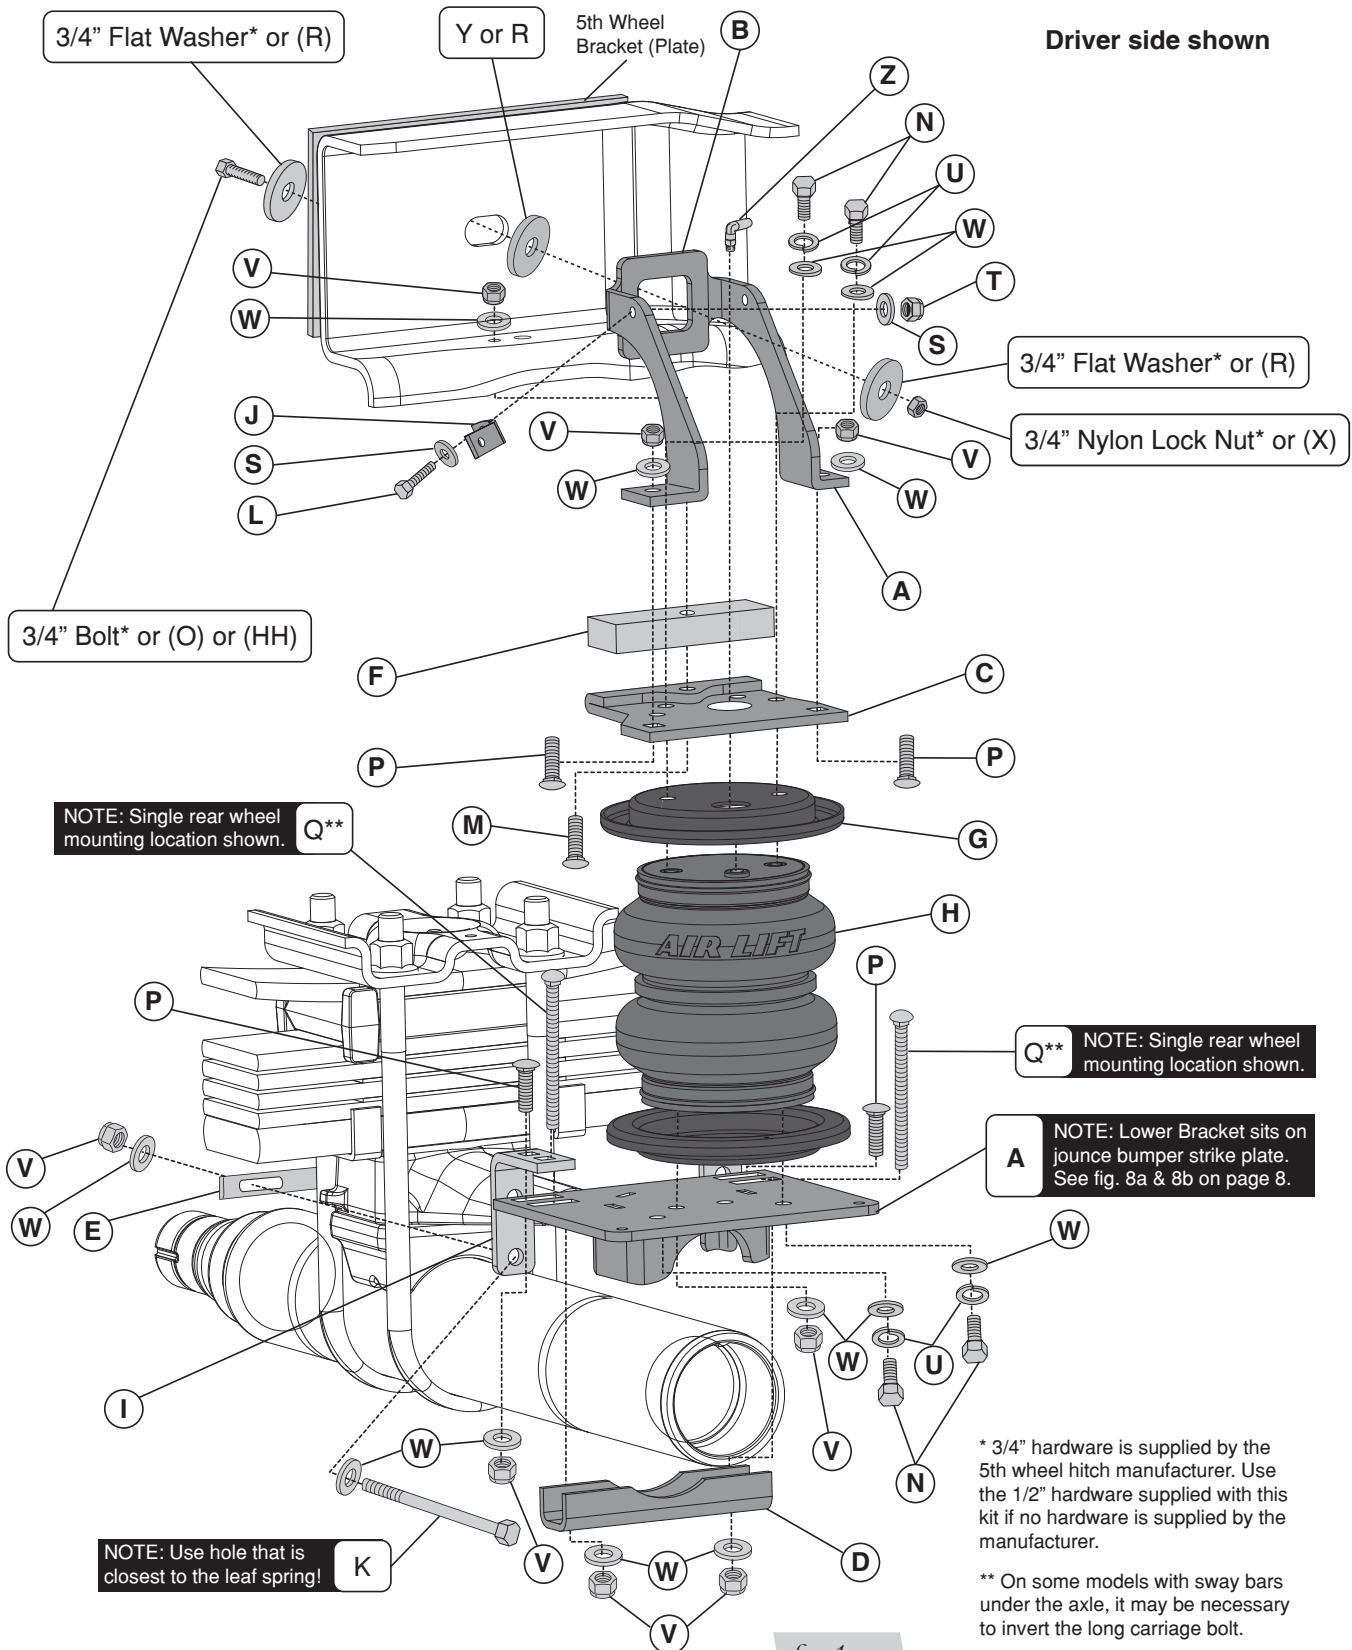
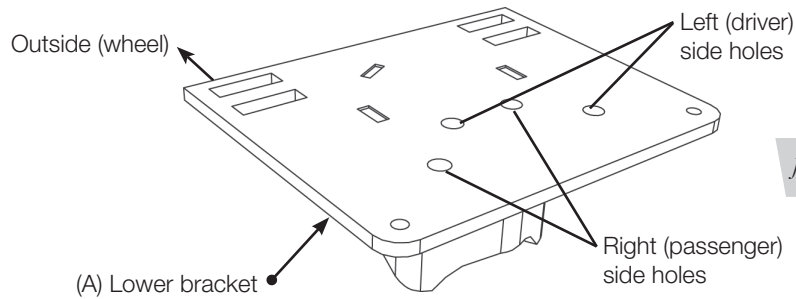

fig. 1
fig. 5
5. If you have a fifth-wheel hitch already installed, it will be necessary to remove the 3/4" hardware that bolts the side bracket to the outside of the frame above the axle (fig. 1).
- Attach the L-bracket (J) to the back frame brace using the 1/4" bolt (L), flat washers (S) and nylon lock nut (T) supplied (Fig. 1). This L-bracket will eventually be used to attach the previously removed emissions line. Do not attach the line holder to it at this time.
If you have no fifth-wheel hitch or a hitch that does not have a plate running alongside the full length of the frame (these will have an “L” bracket forward and behind the axle leaving the middle frame open) use the 1/2”-13 x 2” hex cap screw (HH) with a flat washer (R) through the slot in the side of the frame, then through another flat washer (R) and finally through the upper brace. Cap with a flat washer (R) and a 1/2”-13 nylon lock nut (X) (Fig. 5). Leave loose at this time.
If you have an aftermarket fifth-wheel hitch that has a bracket (plate) running alongside the frame and it used the slot to secure the bracket to the frame with existing hardware, install the existing hardware previously removed in the “getting started section” from the fifth-wheel installation for securing the brace (Fig. 4). Make sure to install the large 3/4” flat washer (Y) between the brace and the frame (Figs. 1 & 4). Do not tighten at this time.
Insert a 1/2”-13 x 3” hex cap screw (O) with a flat washer (R) through the fifth-wheel plate previously drilled, the frame, then through another flat washer (R) and finally the upper brace. Cap with a flat washer (R) and a 1/2”-13 nylon lock nut (X) (Fig. 5). Leave loose at this time.
1. Set a roll plate (G) over the top and bottom of the bellows (H) (Fig. 1).
*The radiused (rounded) edge of the roll plate (G) will be towards the bellows so that the bellows is seated inside both roll plates.*
2. Install the swivel elbow fitting (Z) into the top of the bellows finger tight. Tighten the swivel fitting 1 1/2 turns.
3. The lower bracket (A) has two sets of bellows mounting holes. Using the corresponding holes in the lower bracket designated (Fig. 5), attach the bellows to the brackets using the 3/8" flat washers (W), lock washers (U), and 3/8"-24 x 7/8" hex head cap screws (N). Torque both mounting screws to 20 lb.-ft.